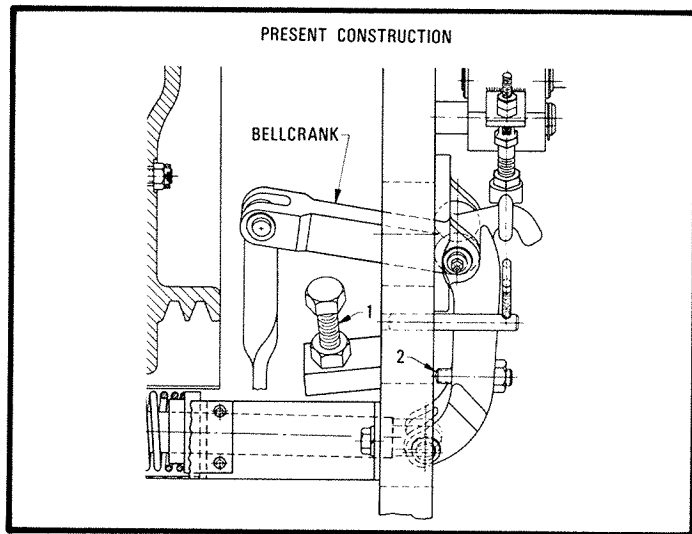
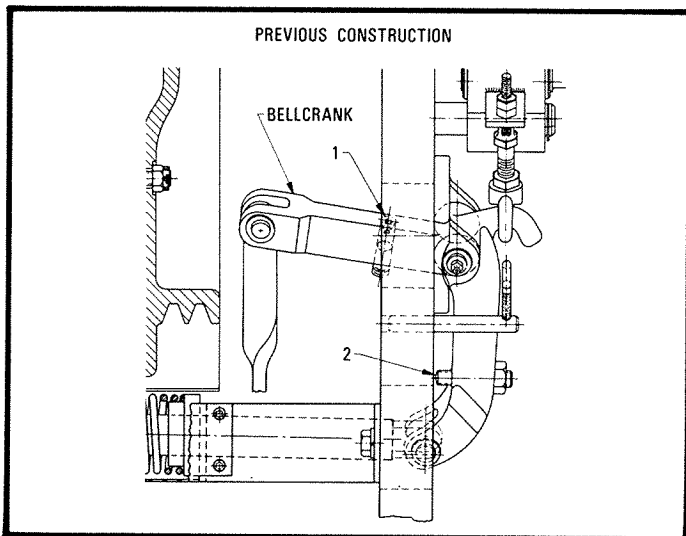

FIGURE 76
FIGURE 77
Bell cranks pivoted on inside of right housing: Figure 76 shows location of stop screws for current design machines and Figure 77 is for earlier design machines.
3. Depress the operator control (palm buttons or footswitch). With air pressure at this setting the clutch should not fully engage (the toggles should not go "over center"). This is when stop screw No. 1 in Figures 76 to 79 does not contact its mating surface. If the toggles do go "over center" the clutch adjustment is too loose and must be tightened. Release the operator control (palm button or footswitch).